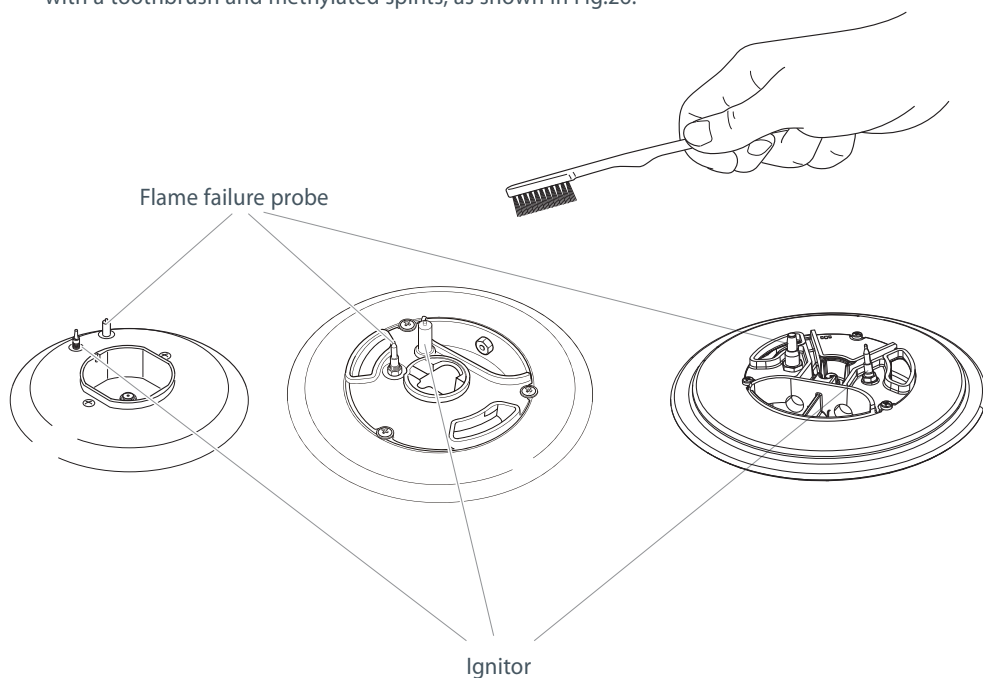

Fig. 26 Cleaning the probe and ignitor
- The ignitors are sparking. If the ignitors are not sparking, they may be dirty or wet. Clean them with a toothbrush and methylated spirits, as shown in Fig.26.
- Note: both the ignitor and probe must be very carefully cleaned using a toothbrush and methylated spirits (see Fig.26).